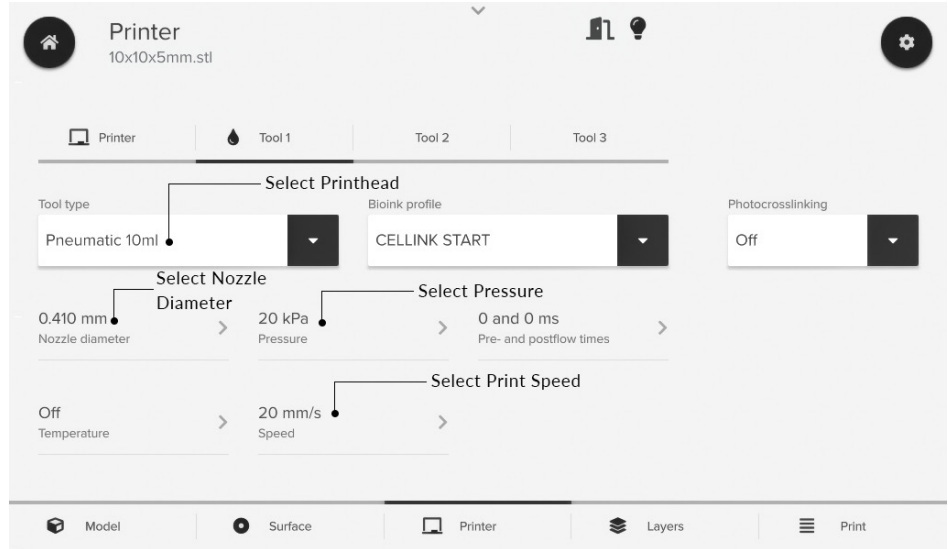

Figure 9: Printing parameters on the Printer menu.
5. Select printhead positions that have been set up. Ensure that Pneumatic 10-mL is selected under the printhead type (Figure 9).
6. Enter your printhead parameters (Figure 9) and proceed to the Layers menu. Parameters needed for the Pneumatic Printhead include: